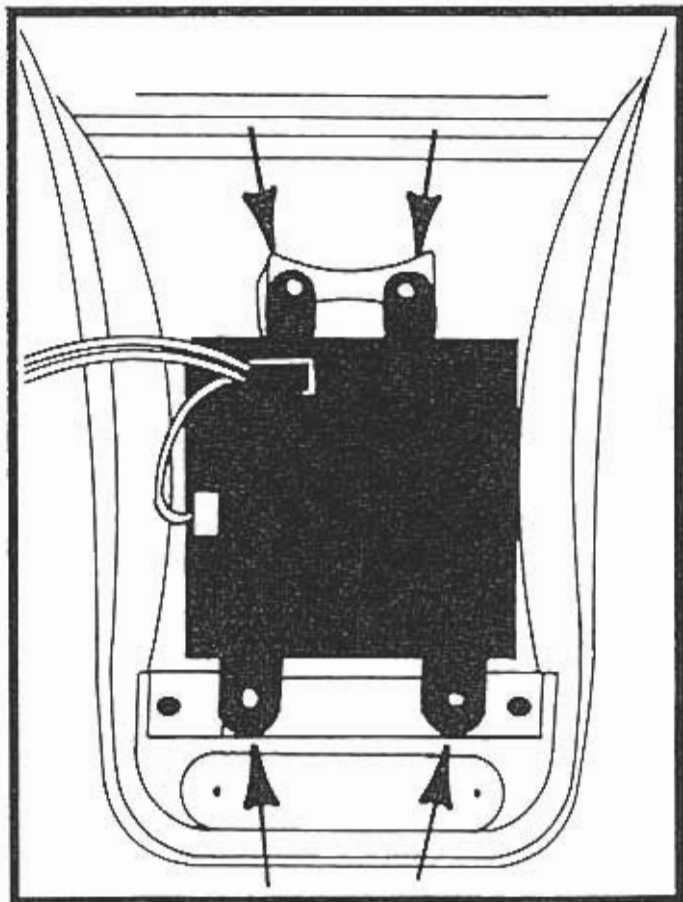

FIGURE 11
Install O.E.M. mini-trip computer and secure using (4) four #6 x 1/2" screws (item 1 pg 2). See figure 11. Do not overtighten screws.